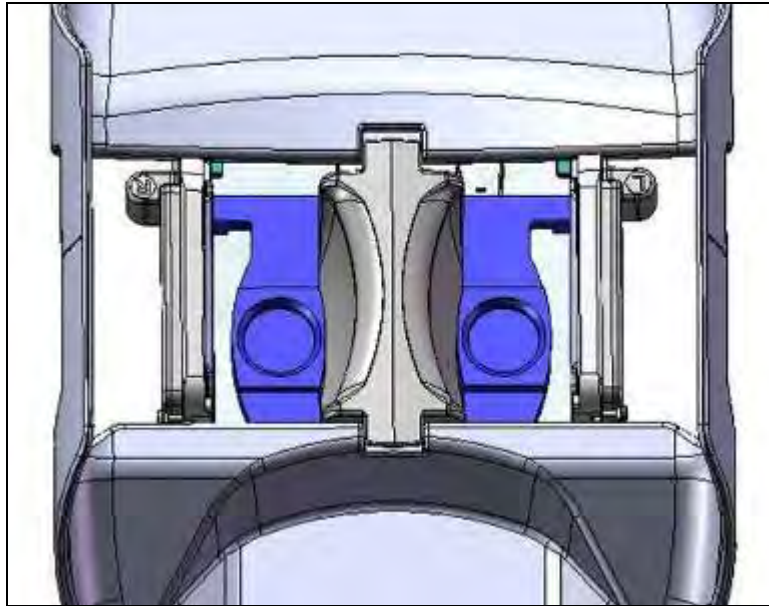

Figure 64: 10 Channel - Phantom Positioner Set-Up
2. Install and connect the three coil cables of the 10-channel coil set (refer to Figure 64) to the Vanguard table and plug in the Vanguard system cable into P-port the receptacle.
3. Close the catchment tray. Move the lateral coils to their furthest outward position and slide them to their highest upward position. Locate the phantom positioners on either side of the medial coil as shown in Figure 64.